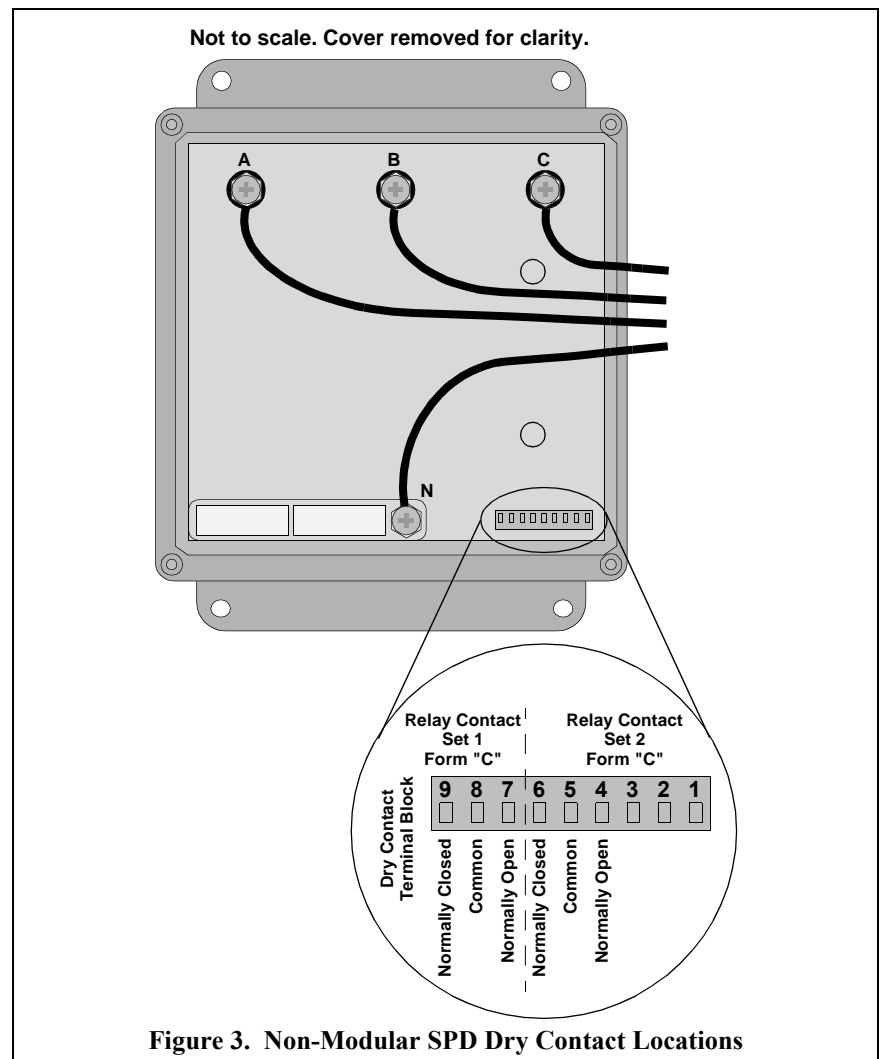

Figure 3. Non-Modular SPD Dry Contact Locations
4. Connect the twisted pair (from Step 1) to a pair Normally Open Dry Contacts in the SPD (see Figure 3 = Non-Modular, Figure 4 = Modular).